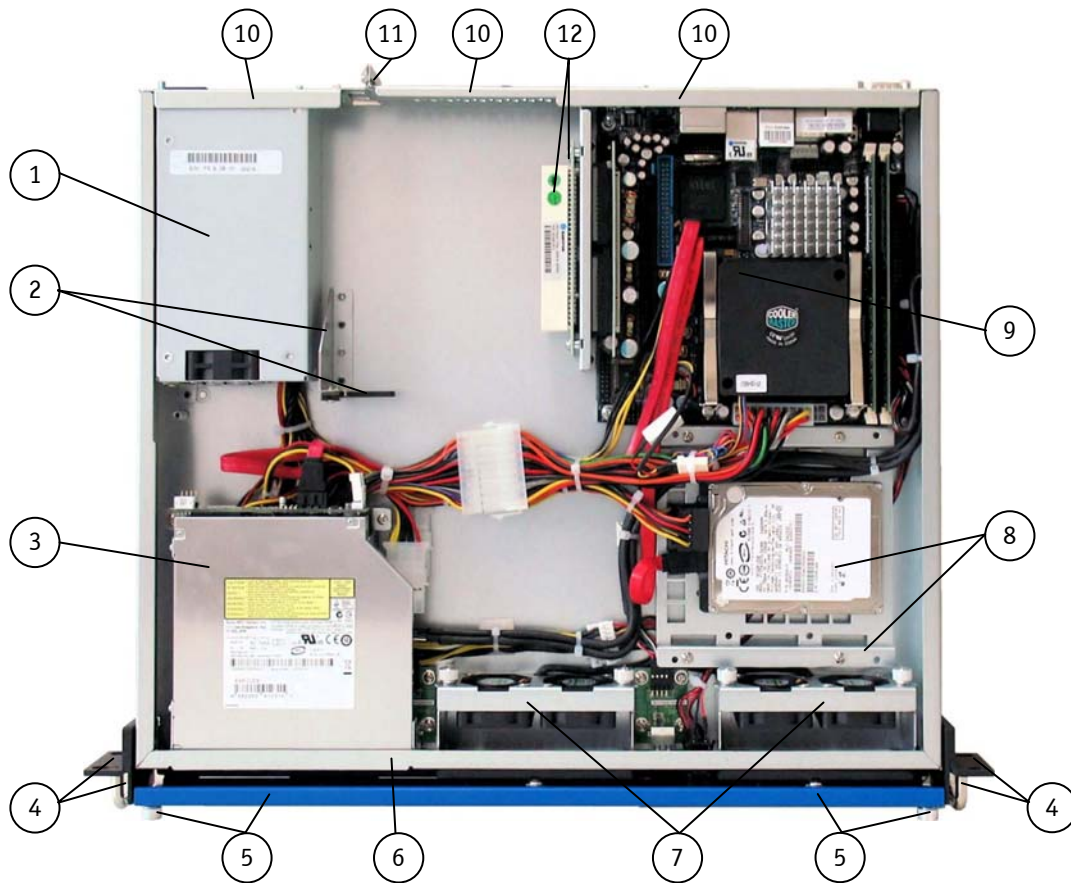
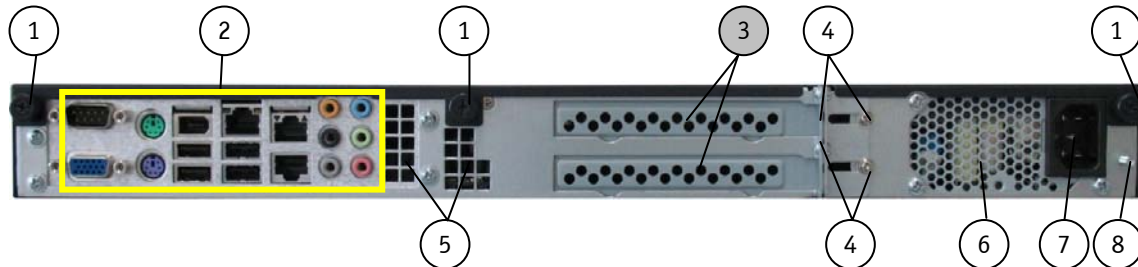
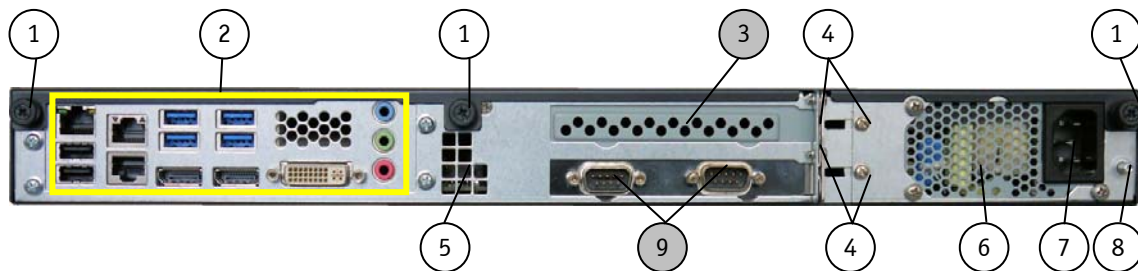
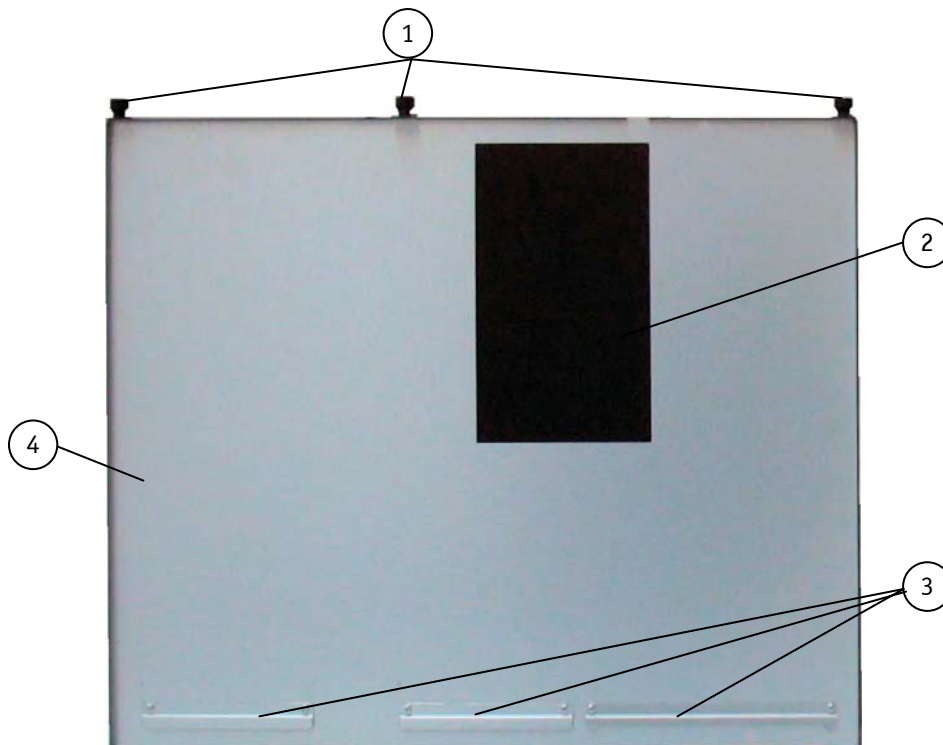

Fig. 5: KISS 1U Short platform, rackmount version, opened
Fig. 10: Rear side of the KISS 1U Short with KTGM45/mITX motherboard
Fig. 11: Rear side of the KISS 1U Short with KTQM77/mITX motherboard
Fig. 13: Inside of the cover with fixing brackets
Legend for Fig. 10 and Fig. 11:
The power supply unit (PSU) is placed on the rear side of the KISS 1U Short platform (Fig. 10 and Fig. 11, pos. 6). For information about the integrated power supply unit (PSU) and the rated voltage of your system, refer to the type label attached on the right side of the unit.
The cover will be fixed to the chassis using three fixing brackets (Fig. 13, pos. 3) and three captive knurled screws (Fig. 13, pos. 1). The fixing brackets are located on the inside of the cover at the front edge. When closing the cover, make sure that the fixing brackets (Fig. 13, pos. 3) will be inserted properly into the corresponding retaining brackets for the cover (Fig. 5, pos. 10) on the rear side of the chassis.
3. Pull the cover back (to remove the cover fixing brackets (see Fig. 13, pos.3) from the retaining brackets Fig. 5, pos. 6).
12. Close the device and secure the cover with the fastening screws (Fig. 10, Fig. 13, pos. 1) on the rear side.
When closing the cover, make sure that the cover fixing brackets (Fig. 13, pos. 3) slide into the corresponding retaining brackets (Fig. 5, pos. 6) of the chassis.